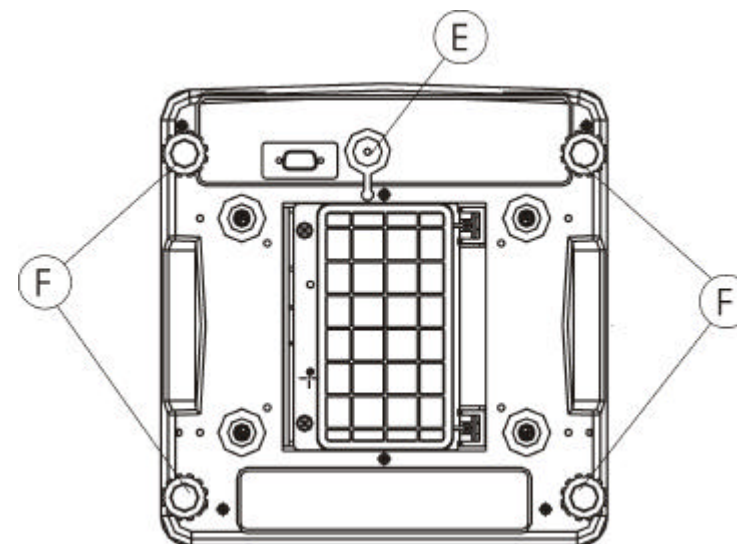

FIG 2
- c. After battery is fully charged, remove adaptor from scale. Apply the battery cap (**FIG 2 E**) to seal the DC input jack of scale.
If required, adjust the adjustable feet (**FIG 2 F**) underneath scale to obtain a level position. Refer to the bubble indicator for leveling condition.